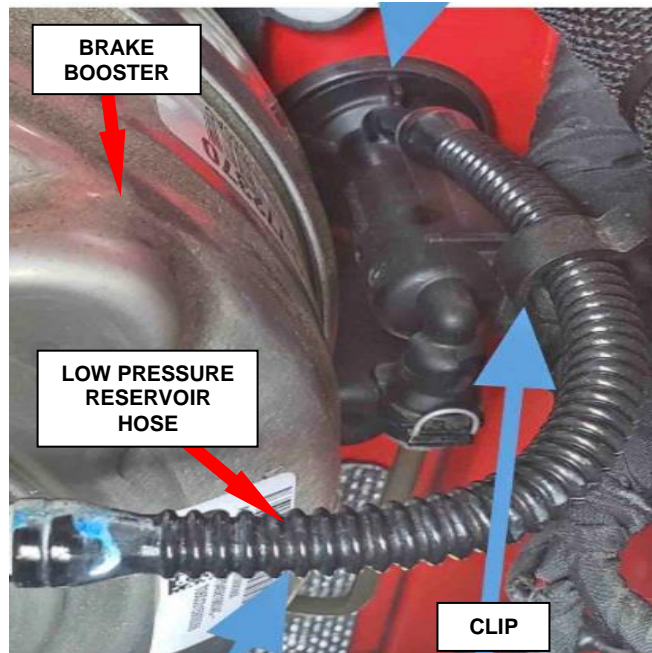

Figure 1 – Low Pressure Reservoir Hose
1. Locate and cut the clip holding the wire harness to the low pressure reservoir hose and **Discard** the clip (Figure 1).
2. Inspect the low pressure reservoir hose. If any leaks, deformation, or wear is found replace the reservoir hose (Figure 1).